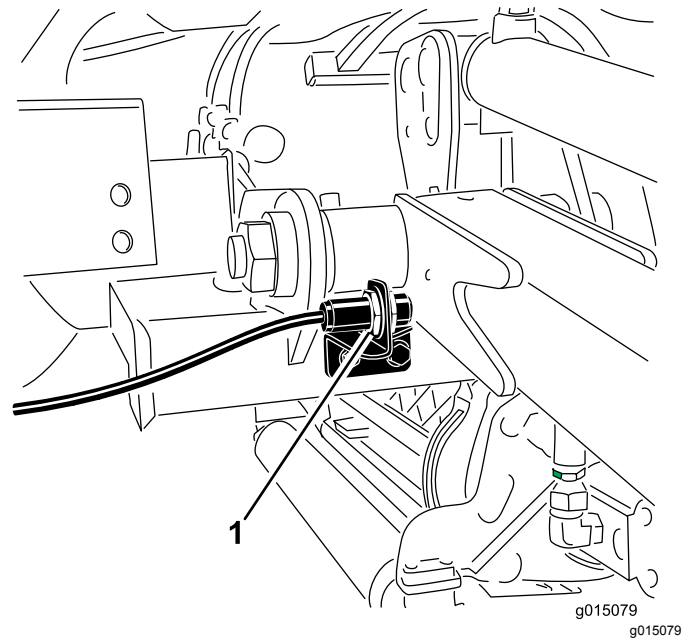

Figure 35
2. The lift-arm switch is located behind the front right lift arm (Figure 35).
3. Loosen the switch mounting screws (Figure 35) and move the switch up to increase the lift-arm turnaround height or move the switch down to decrease the lift-arm turnaround height.